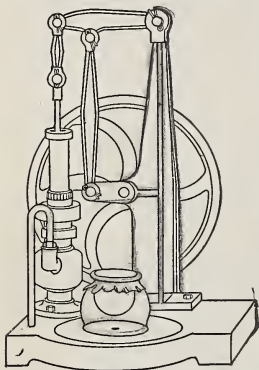

Fig. 15.—Pressure of the Air Breaking a Membrane
2. Tie a sheet of thin rubber over one end of a palm, or bladder, glass and place it over the opening in the plate of an air pump. Make one or two strokes with the pump handle. The rubber will be pushed inside the glass. Why? See Figure 15.